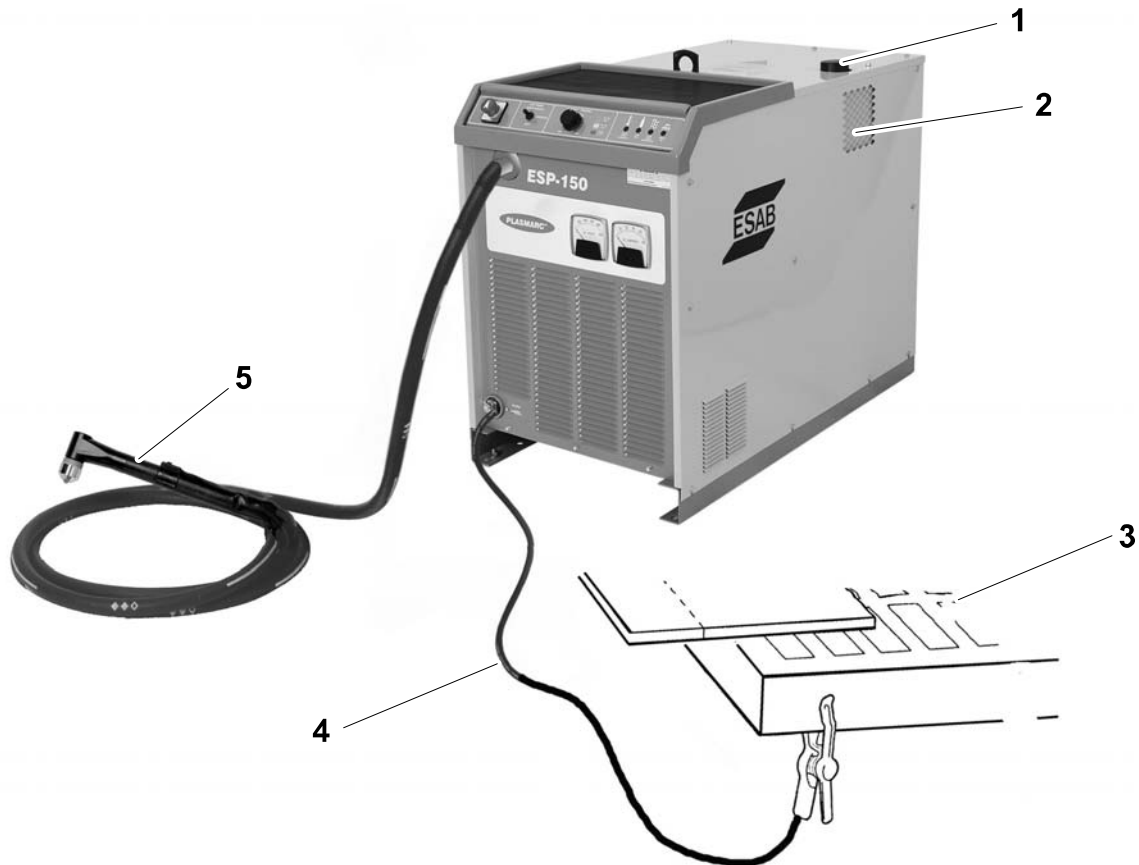

Fig 15 Access for filling Torch Coolant Tank
1. Connect terminal lug end of the work cable assembly to stud on lower left corner of front panel. Nut should be wrench tight. (Fig. 15). Electrically connect work cable to work piece. The connection must be made to a clean, exposed metal surface free of paint, rust, mill scale, etc. (Fig. 15)